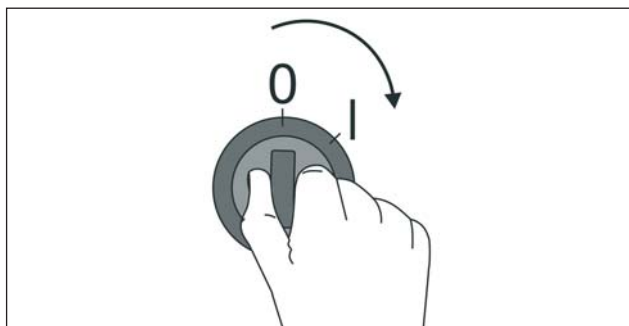

Fig. 10.1
1. Test the refrigerant circuit for leaks according to EN 378-2 and the regulations in force in the country where the unit is installed (Fig. 10.1). The leak test should be carried out by pressurizing the system with nitrogen or another suitable inert gas, with all valves in the system open. The whole circuit of the refrigeration system must be tested. The compressor valves must be closed (if available). Never pressurize the refrigerant circuit with oxygen or dry air as it can cause fire or explosion. The required testing pressure depends on the refrigerant used as well as on the system design. It is strictly prohibited to perform welding or brazing work as well as tighten screw connections on equipment under pressure.
4. Set the power supply switch to «I» position (Fig. 10.1). Crankcase heater and additional heaters (if available) are automatically switched on. Make sure that the heater is running.